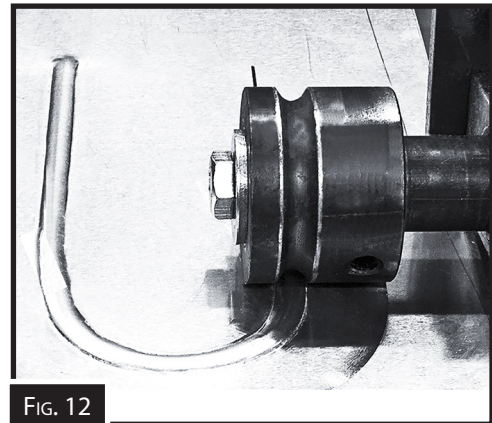

FIG. 12
- It is critical to keep the guideline aligned with the Upper Die as you go (Fig. 12).